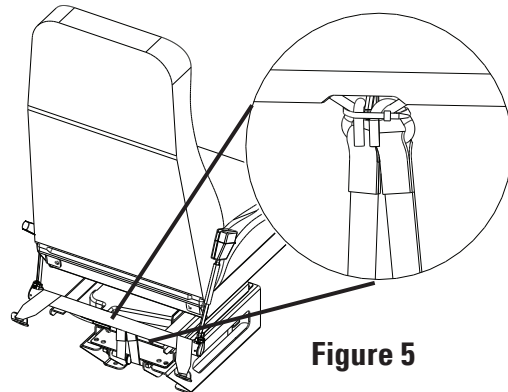

Figure 5
4. Connect hook into ICP cable as shown. See FIGURE 5
5. Secure tie wrap (supplied) around hook and cable as shown in detail in Figure 5 and pull tightly. The tie-wrap assures hook maintains engagement with the cable.